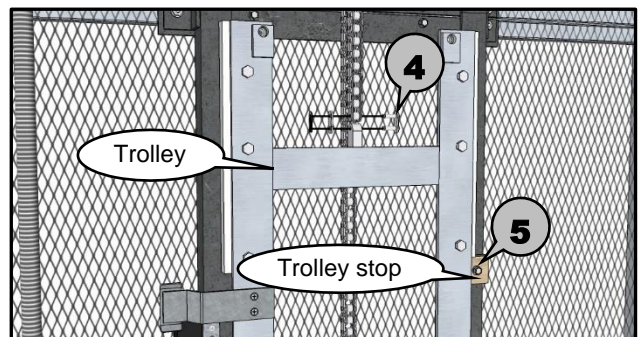

Figure 20
- 4** Use provided master link, attached near the top of the trolley with a plastic tie, to connect chain to top end of trolley. (see Figure 20)
- 5** Some machines may have a trolley stop screwed to the track for shipping and installation. Support the trolley to remove stop and carefully lower the trolley down the track and discard stop. (see Figure 20)